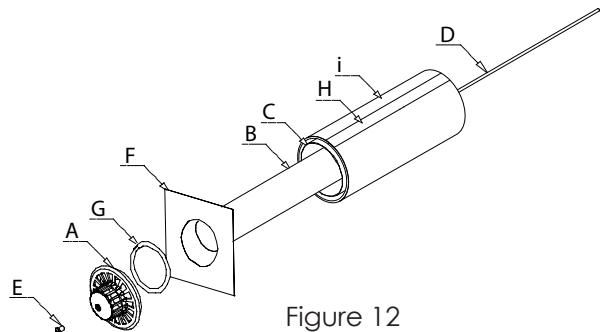

Figure 12
The venting system consists of: one injected-aluminum cap (A), one vent pipe (B), one vent-air intake pipe (C), one rod (D), one nut (E), one outdoor mounting plate (F) and one silicon-rubber ring (G) tape (H) insulation (i) (see figure 12).